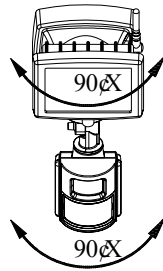

FIGURE 4
- 1 The adjustable angle for the floodlight and PIR Camera can be 45° leftward and rightward. (FIGURE 4)